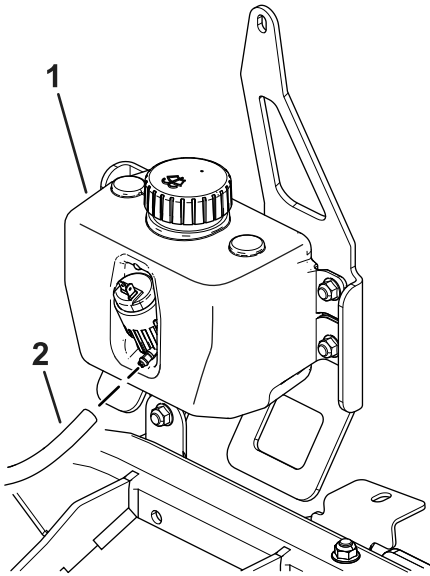

Figure 27
2. Install the hose to the washer-fluid tank as shown in Figure 27.